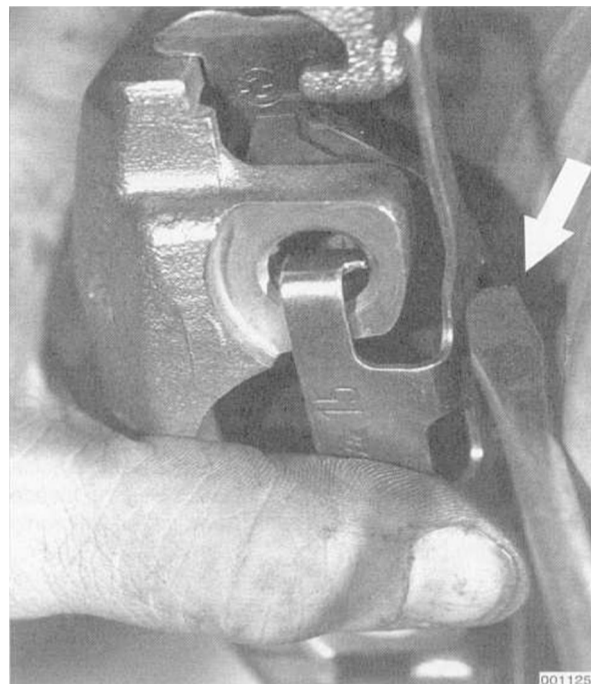

Fig. 3. Brake pad anti-rattle clip being unhooked from caliper using screwdriver (**arrow**).
4. Remove the anti-rattle clip from the caliper. See Fig 3.